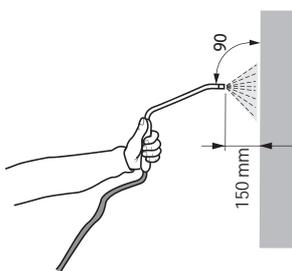

Figure 2. Cleaning the heat exchanger with water.
**NOTE!** It is important to keep the nozzle square to the fin surface and no closer than 150 mm to prevent damage to the fins, see Figure 2.